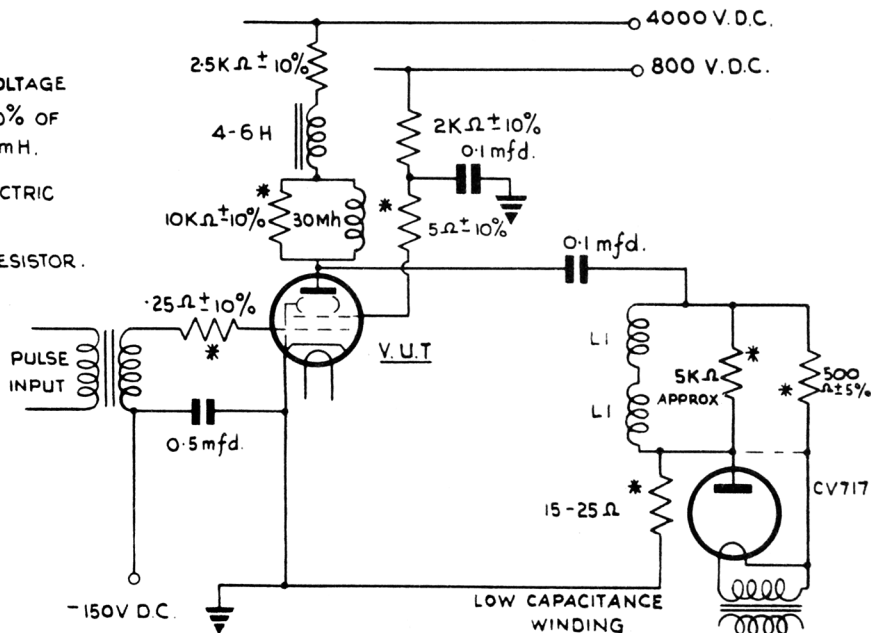

FIG.1. HIGH VOLTAGE OPERATION & LIFE TEST CIRCUIT.
- After a minimum pre-heat time of 30 secs. with heater volts only, the valve shall be subjected to the following pulse conditions in the circuit on page 5, Fig.1.